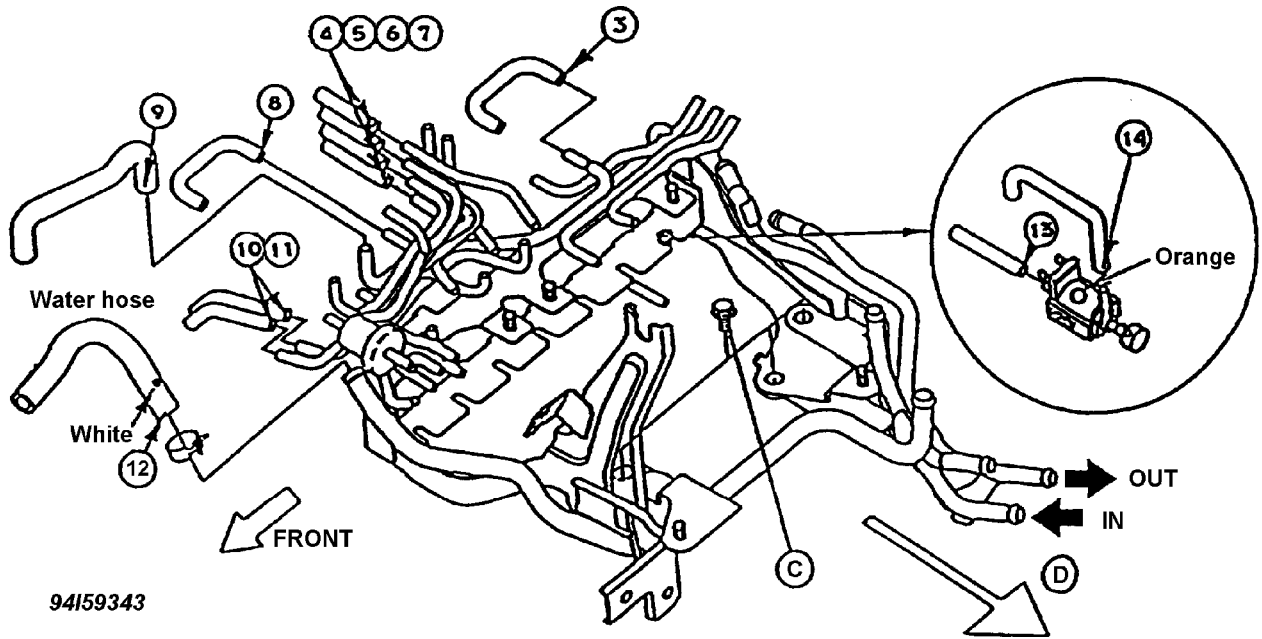

Fig. 30: Installation of Vacuum Tubes
34. Install the vacuum pipe assembly. See Fig. 30.